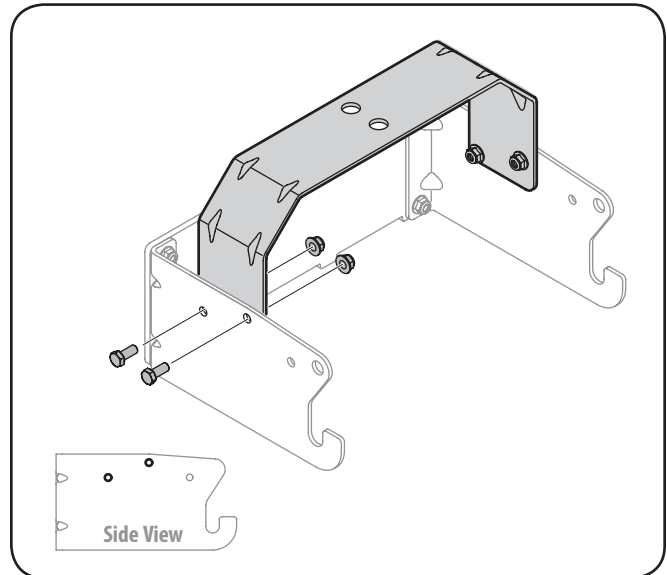

Figure 4-2
2. Flip over assembly and mount the hitch support bracket to the mounting assembly as seen in Fig. 4-2.